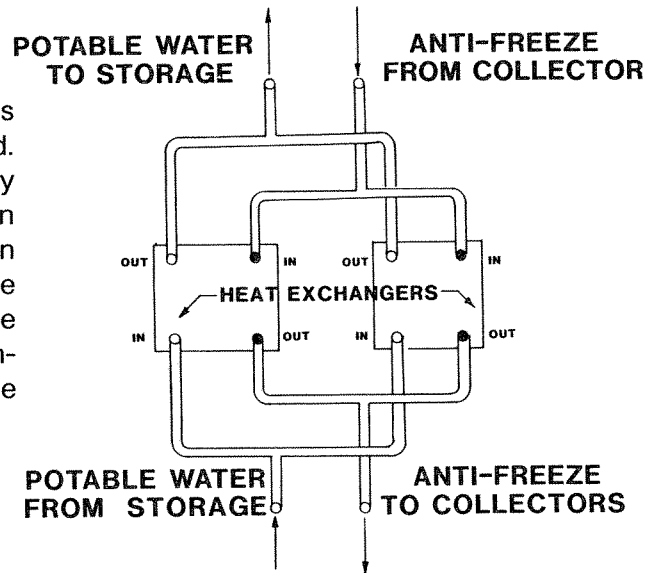

Figure 2.35
- Two heat exchangers or one larger one is required if three or more collectors are used. Dual heat exchangers improve system efficiency and therefore are cost effective. The installation of parallel exchangers must be as shown on in Figure 2.35. Be certain anti-freeze fluid from the collectors flows in the opposite direction of the potable water from storage. Avoid cross contamination which would result in poisoning the potable water.